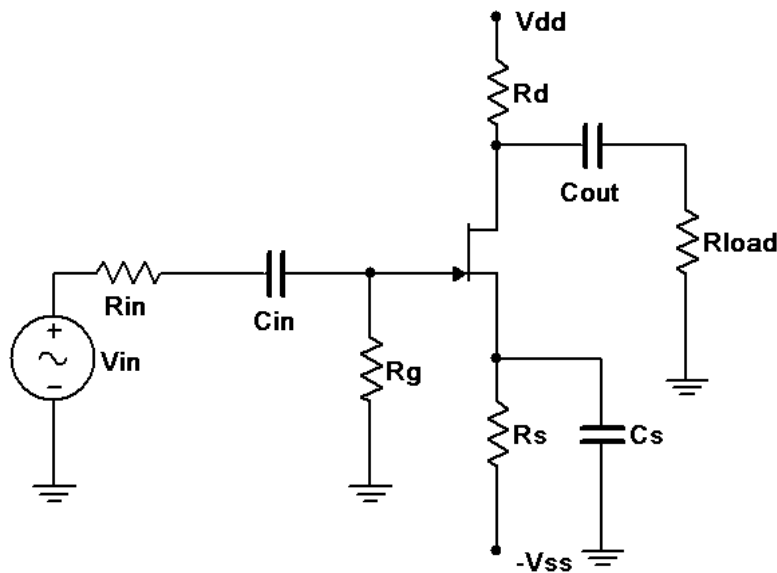

Figure 1
1. Consider the circuit of Figure 1 using $V_{dd} = 15$ volts, $V_{ss} = -3$ volts, $R_{in} = 33$ k Ω , $R_g = 330$ k Ω , $R_s = 4.7$ k Ω , $R_d = 4.7$ k Ω , $R_{load} = 22$ k Ω , $C_{in} = C_{out} = 10$ μ F and $C_s = 470$ μ F. Assuming $V_{GS} = -2$ volts and $g_m = 2$ mS (4 mS if using the J112), determine the theoretical gain and input impedance of the circuit and record these in Table 1.
2. Build the circuit of Figure 1 using $V_{dd} = 15$ volts, $V_{ss} = -3$ volts, $R_{in} = 33\text{ k}\Omega$, $R_g = 330\text{ k}\Omega$, $R_s = 4.7\text{ k}\Omega$, $R_d = 4.7\text{ k}\Omega$, $R_{load} = 22\text{ k}\Omega$, $C_{in} = C_{out} = 10\text{ }\mu\text{F}$ and $C_s = 470\text{ }\mu\text{F}$. Set V_{in} to a 100 mV peak sine at 1 kHz. Measure the voltages at the gate and load, and record these in Table 1. Capture images of the input and gate voltages, and the gate and load voltages. Note whether or not the load is inverted compared to the gate signal.